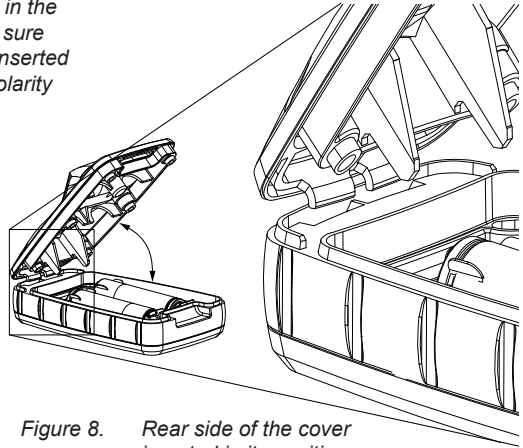

Figure 8. Rear side of the cover inserted in its position
2. Carefully remove the cover by lifting up the front of the cover (see fig. 8).